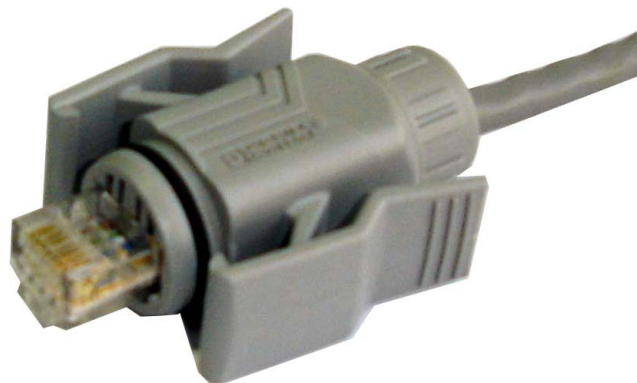

Figure 3-12 Assembled RJ45 Connector
- Press the crystal head into the terminal and keep the rings closely as shown in Figure 3-12: